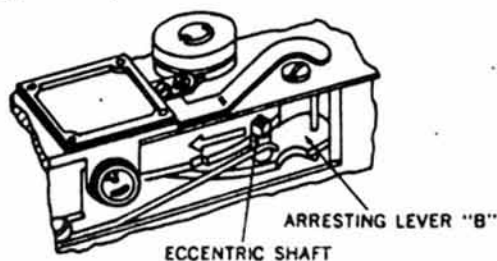

Figure 4-8. High Shutter Speed Adjustment.
- (c) *Entire slit too wide or narrow.* Turn the eccentric shaft of arresting lever "B" (fig. 4-8) to the right or left with tool 42-253.01-U281W3. Reset shutter to 1/250 and 1/1000. Compare slit width with patterns in fig. 4-7.